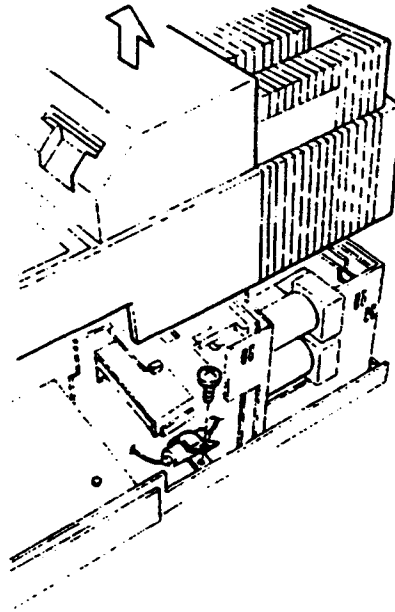

Figure 6.31
- (4) Remove the recorder top cover upward. There is lithium battery pack on the right side when viewed from the front (Figure 6.31).